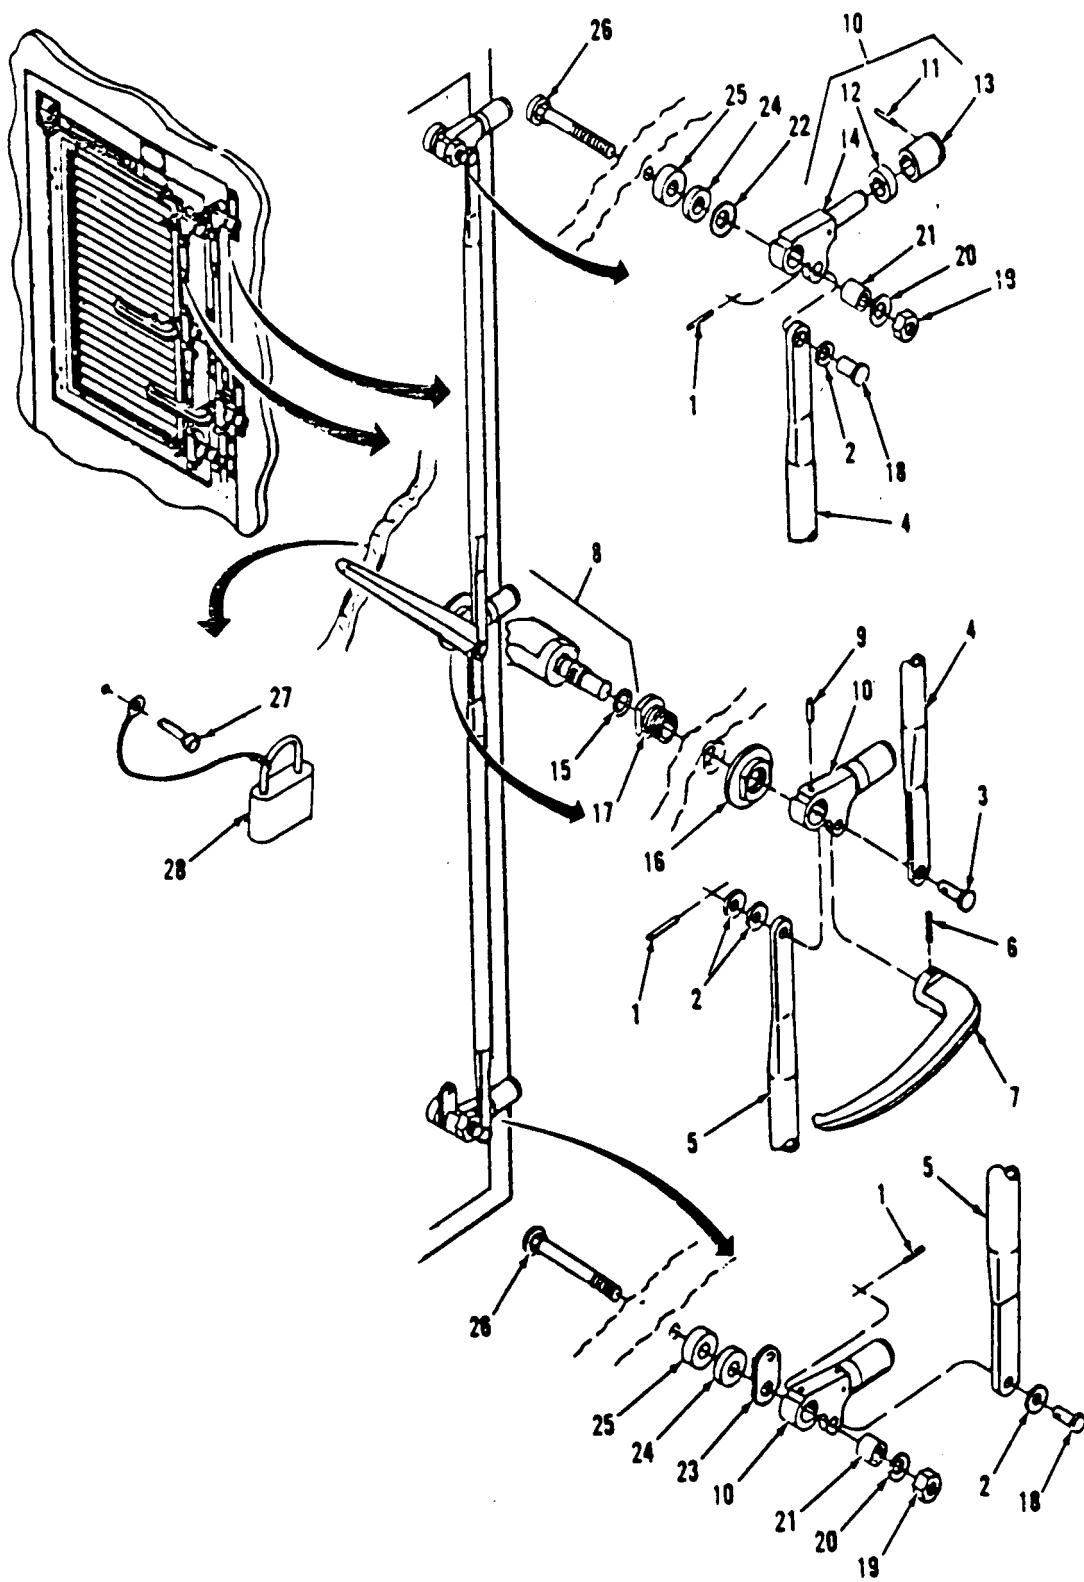

Figure 3-21. Door Handle Assembly and Latching Mechanism Replacement.
Except for the length of the latch assembly rods (items 4 and 5, Figure 3-21), the inner door and outer door handle mechanisms are identical. Maintenance procedures are the same for both.
- (1) Inspect the door latch assembly for secure mounting and broken or worn parts.
- (2) Inspect for ease of operation.
- (3) Inspect the door handle for tightness and for worn or damaged parts.
*b. Service.* (Figure 3-21) Service of the door latch assembly consists of lubricating the door handle (8) and latch arm assemblies (10) with lubricant.
*c. Disassemble.* (Figure 3-21)